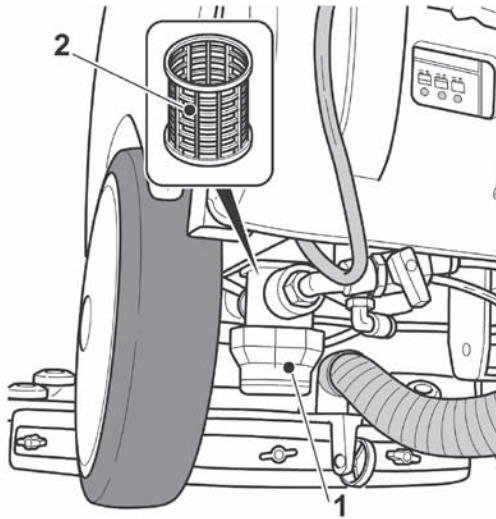

Fig 25
7.5 Operations to perform weekly Cleaning the clean water filter (Fig. 25)